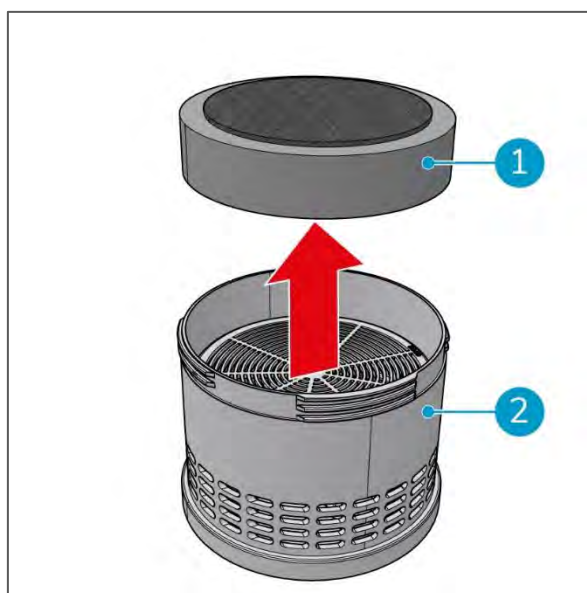
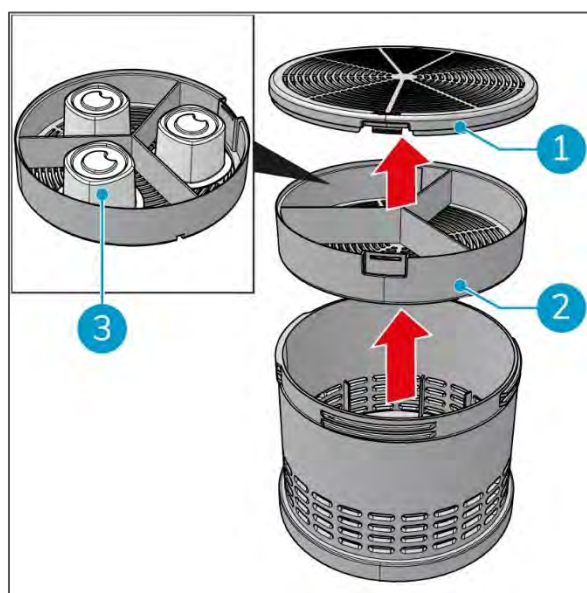

Figure 25
Figure 27
4. Remove the old motor filter (Figure 25, pos 1) from the filter housing.
5. Place the new motor filter (Figure 25, pos 1) in the filter housing (Figure 25, pos 2).
4. Remove the motor filter (Figure 25, pos 1) from the filter housing.
5. Remove the fragrance cartridge (Figure 27, pos 2) from the filter housing.
6. Remove the lid of the fragrance cartridge (Figure 27, pos 1).
7. Place 1, 2 or 3 fragrance pods (Figure 27, pos 3) in the fragrance cartridge.
8. Replace the lid (Figure 27, pos 1) on the fragrance cartridge (Figure 27, pos 2).
9. Replace the fragrance cartridge (Figure 27, pos 2) in the filter housing (Figure 25, pos 2).
7. Replace the motor filter (Figure 25, pos 1) in the filter housing (Figure 25, pos 2).